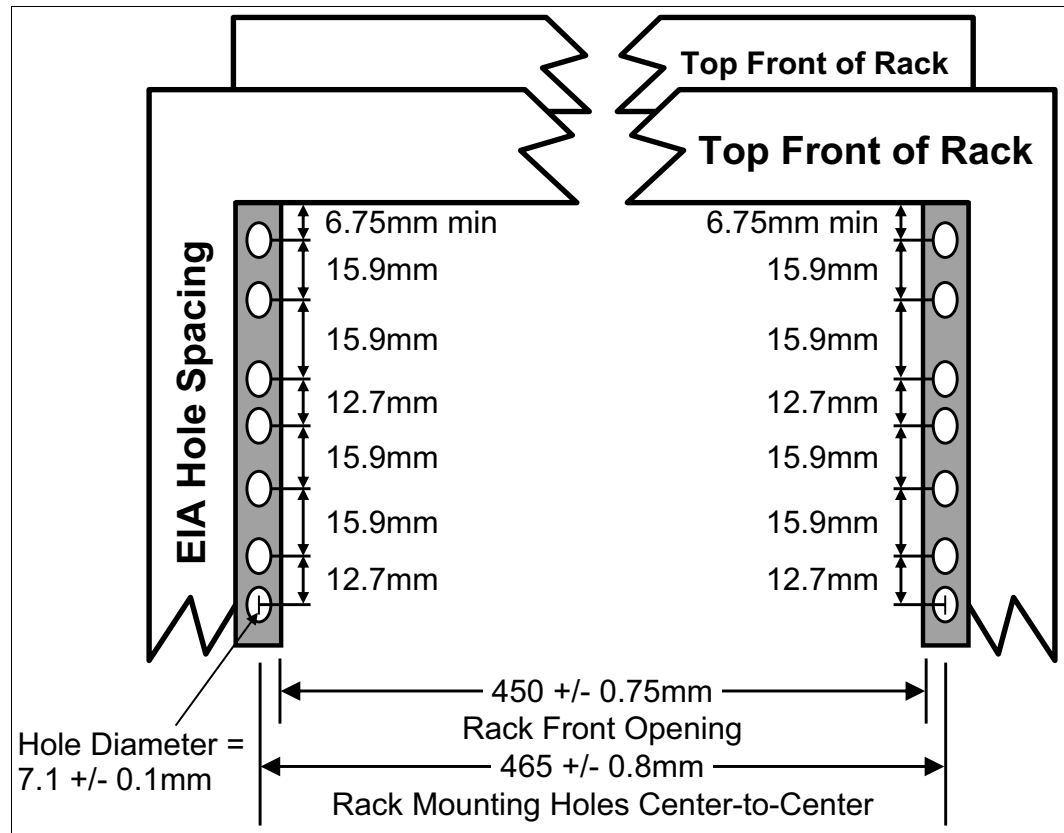

Figure 1-10 Top view of rack specification dimensions (not specific to IBM)
- The front rack opening must be 451 mm wide ± 0.75 mm (17.75 in. ± 0.03 in.), and the rail-mounting holes must be 465 mm ± 0.8 mm (18.3 in. ± 0.03 in.) apart on-center (horizontal width between the vertical columns of holes on the two front-mounting flanges and on the two rear-mounting flanges). Figure 1-10 is a top view showing the specification dimensions.